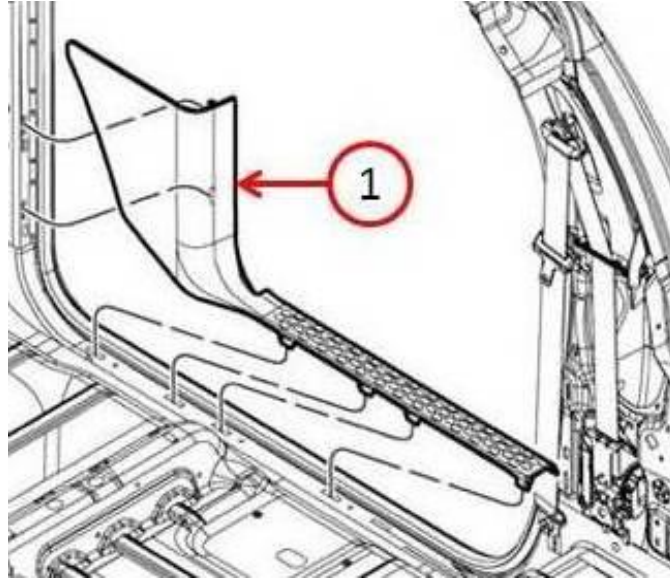

Fig. 3 Passenger Lower Trim Panel
5. Remove the passenger side cowl trim panel (Fig. 3).